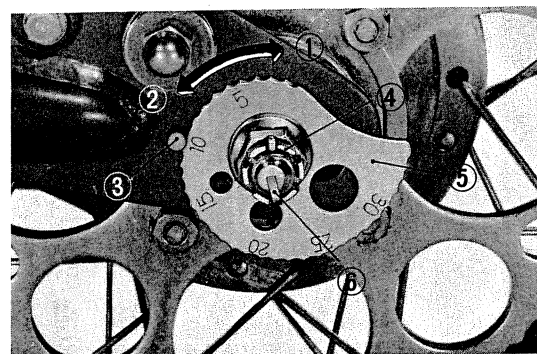

Fig. 11 ① To increased tension ② To decrease tension
- 2) To adjust, remove the cotter pins from the axle nuts on both side of the rear fork and turn the adjuster plates in either direction until the specified chain tension is obtained. The adjusters on both side must be in the same setting. To secure it, tighten the nuts to specification and install the cotter pins securely. (Fig. 11)